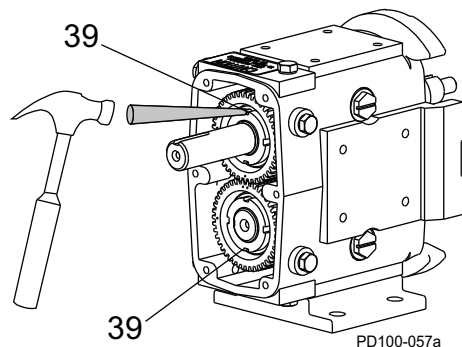

Figure 268 - Straighten Lock Tab on Lock Washers
1. Straighten the tab on the lock washers (Figure 268, item 39).